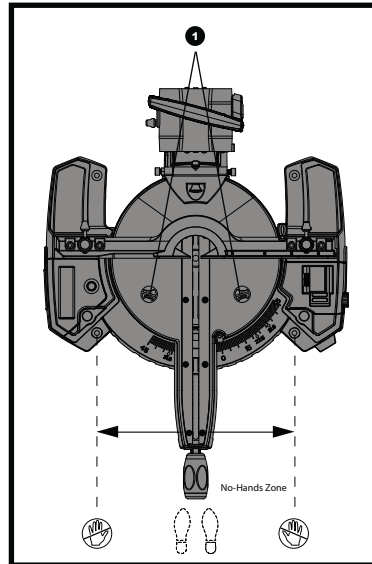

Fig 28
- Place hands at least 190.5 mm away from the blade – out of the “no-hands zone” (1). (See Fig 28)